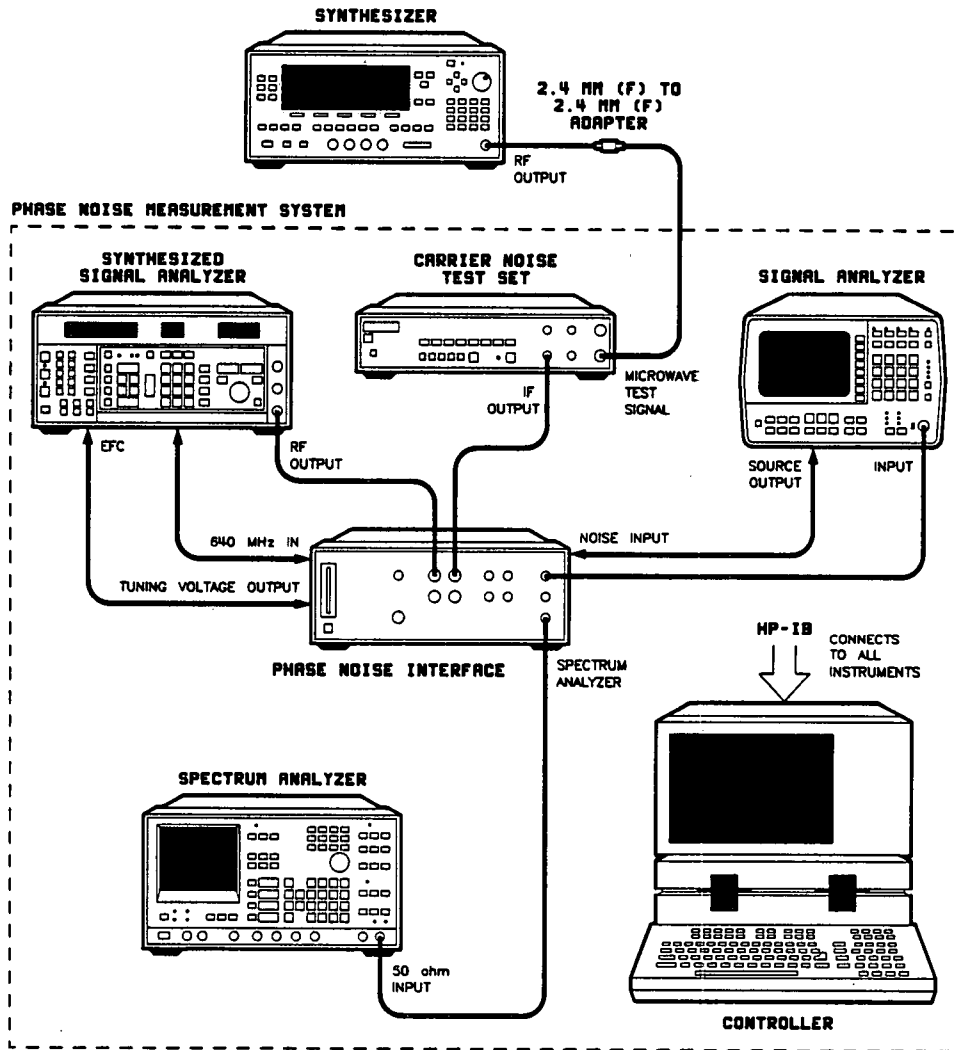

Figure 2-13. Single Sideband Phase Noise Test Setup
1. Connect the equipment as shown in figure 2-13. Preset the equipment and let them warm up for at least one hour.